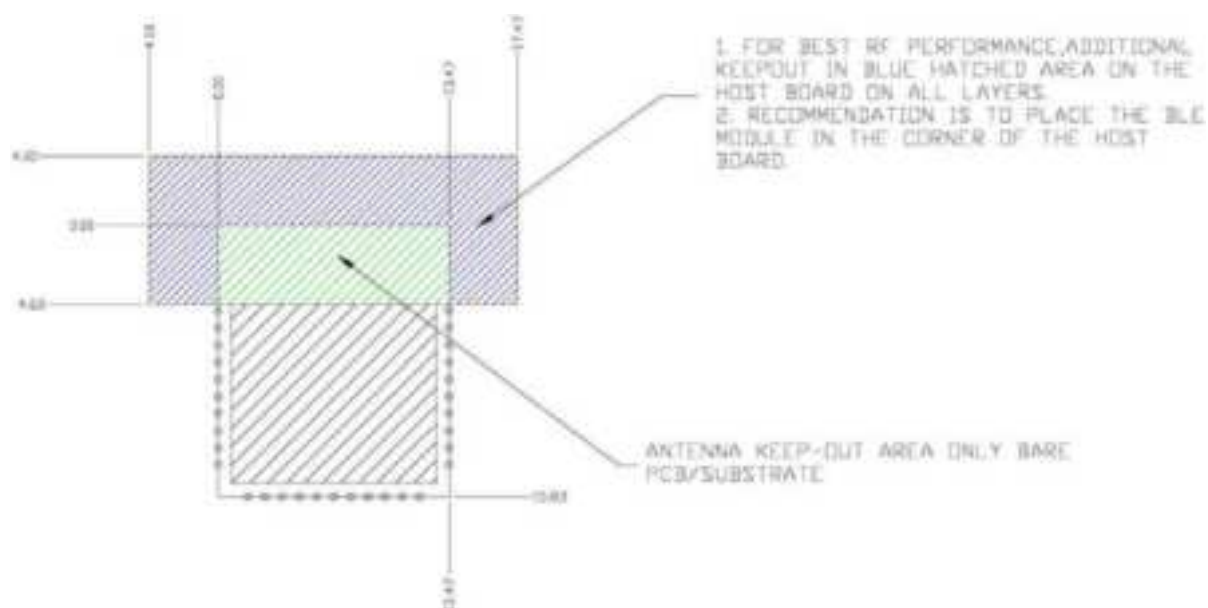

Figure 4 Optional additional host PCB keep out area around the CYW30739B2-P5TAI051 trace antenna
2. Module placement: The ideal placement of the Bluetooth® module is in a corner of the host board with the trace antenna located at the far corner. This placement minimizes the additional recommended keep out area stated in item 3 below. Refer to AN96841 for module placement best practices.
3. Optional keepout: To maximize RF performance, the area immediately around the Bluetooth® module trace antenna may contain an additional keep out area, where there are no grounding or signal traces. The keep out area applies to all layers of the host board. The recommended dimensions of the host PCB keep out area are shown in Figure 4 (dimensions are in mm).